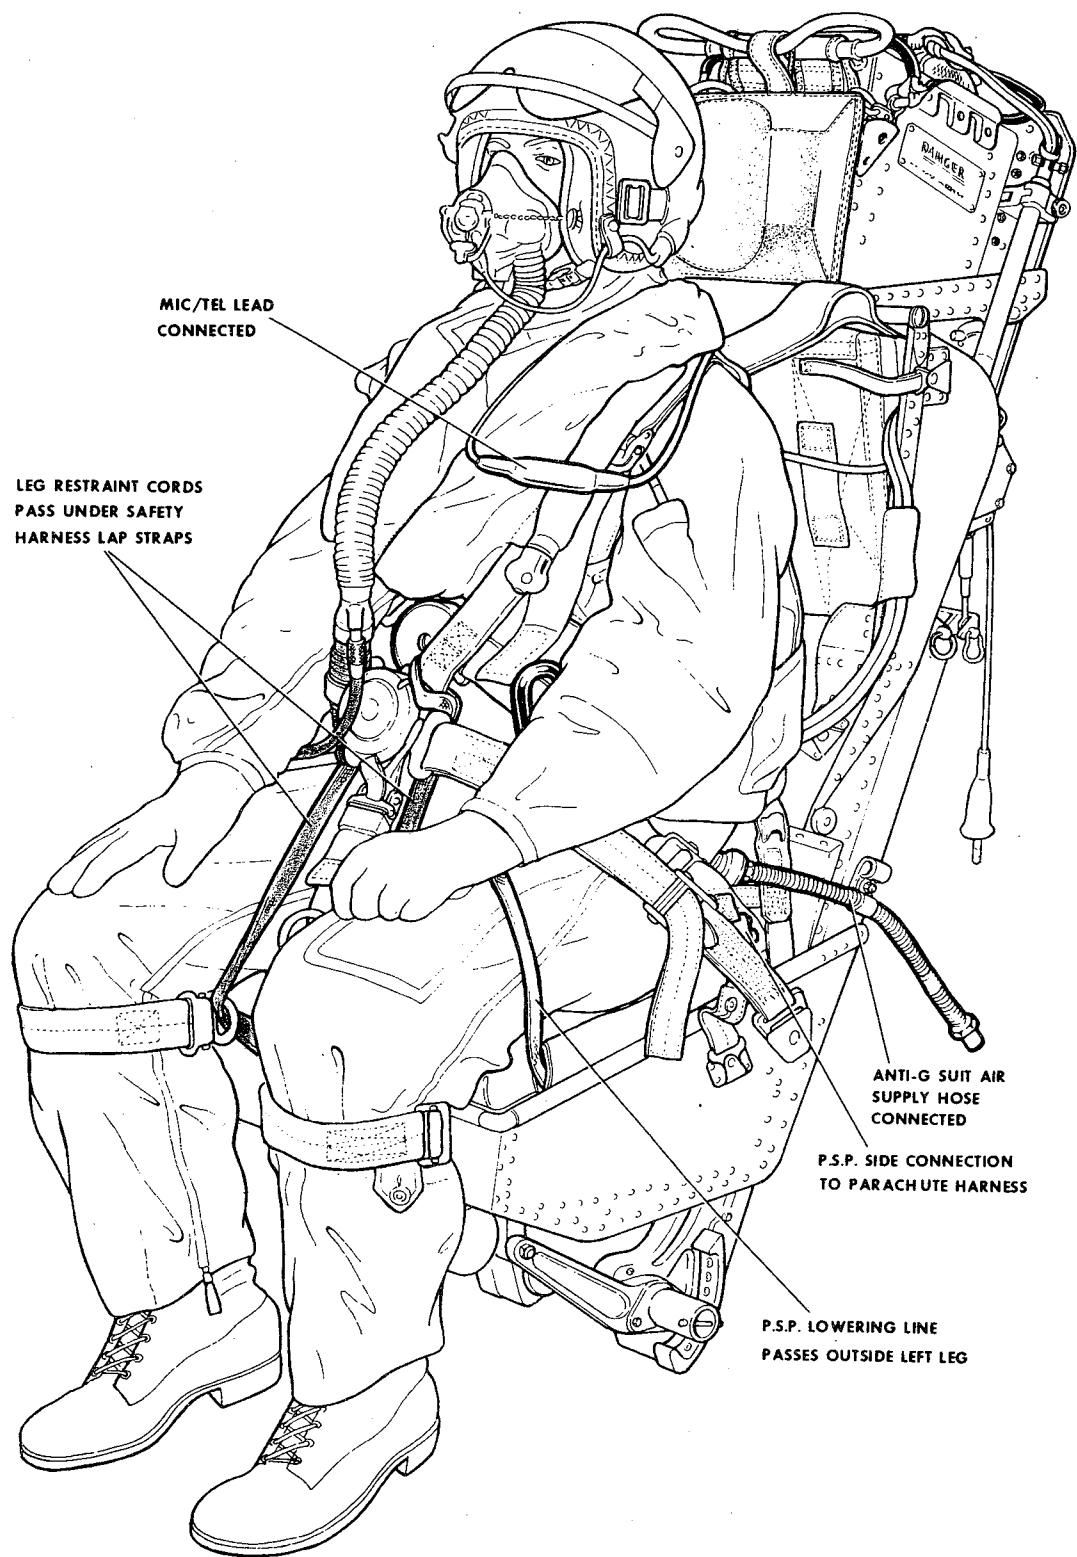

Fig. 7 Seat occupied (2)
(4) Connect the personal survival pack lowering line to the life preserver, ensuring that the quick-release coupling is below the level of the parachute harness waist belt and that the line passes outside the left leg as shown in fig. 7. Tuck the surplus line between the leg and the side of the seat pan.
(5) Connect the anti-g suit air supply hose to the suit. Route the hose outside the straps, (fig. 7).
(6) Connect and tighten the parachute harness, ensuring that the shoulder straps pass under the folds of the life preserver stole and that the quick-release fitting is positioned as high as possible compatible with comfort.